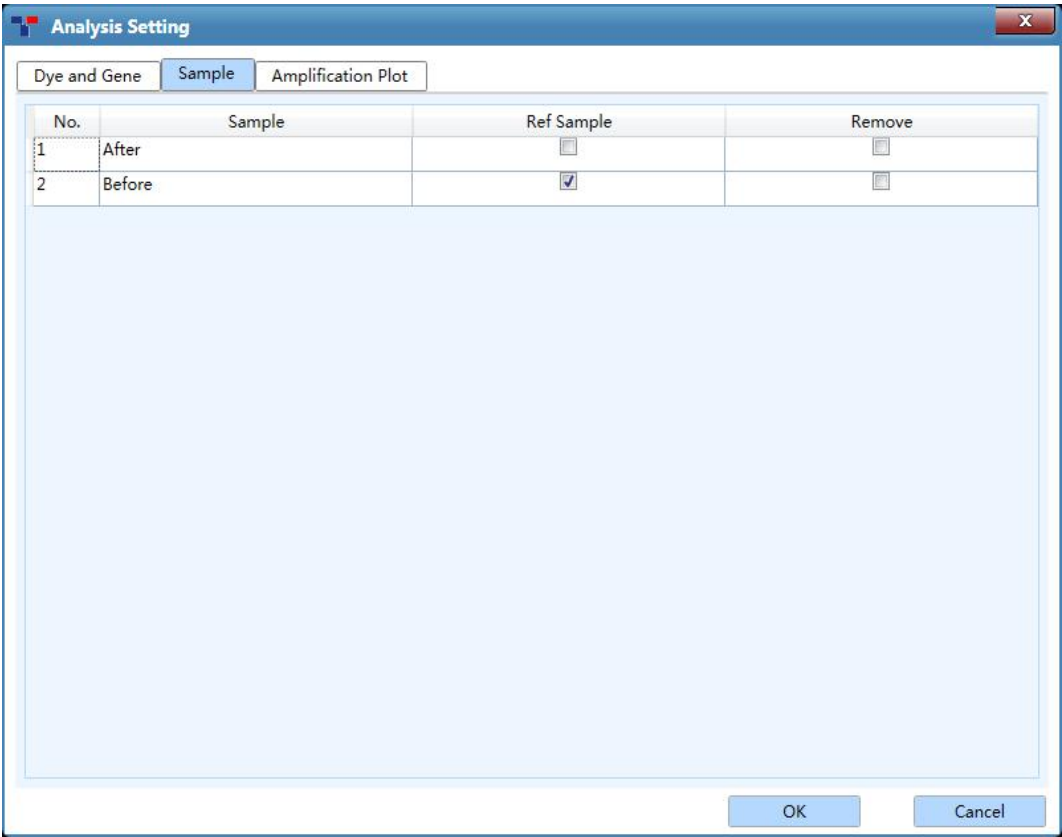

Figure D-12.3 Rel Quant Analysis Setting interface - Sample tab
- **Sample** tab: display all **Sample** names of the current experiment, as shown in figure D-12.3.